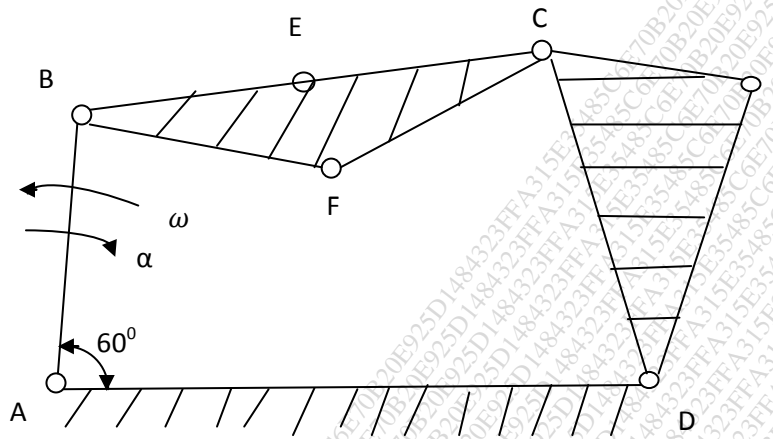

Fig. 2
- Q.3 Fig.2 shows the configuration diagram of four bar mechanism along with the lengths of links in 13